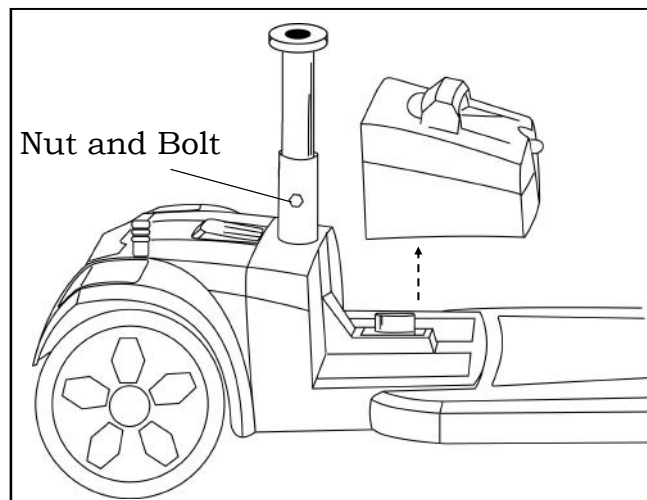

Figure 10
2. Remove the battery box by lifting it up. See figure 10.